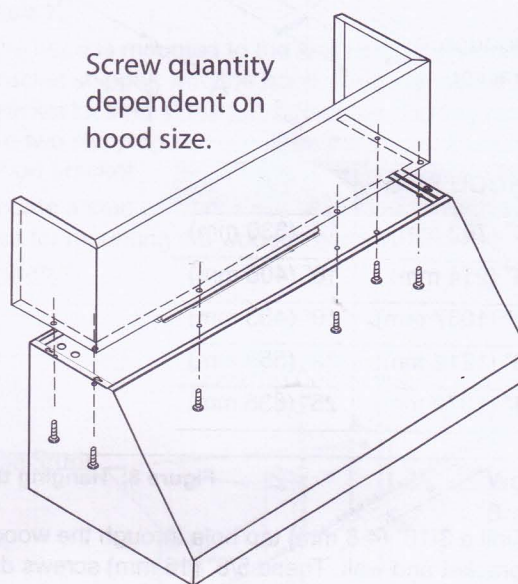

Figure 14: Attachment of Duct Cover(s) to Hood
Duct covers, sold separately, are available to cover the space between the top of the hood and ceiling (see *Figure 14*).
Optional duct covers shown in *Figure 14* may be used to fill the space between the hood and ceiling in wall mount installations. 6" (152 mm) and 12" (305 mm) high duct covers are available and may be ordered separately (see *page 4*)
2. Attach the duct cover(s) to the hood using sheet metal screws as shown in *Figure 14*.